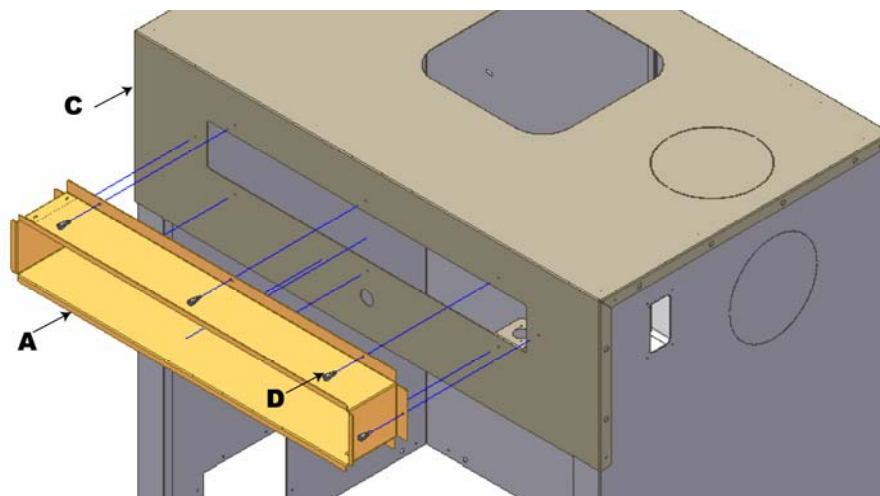
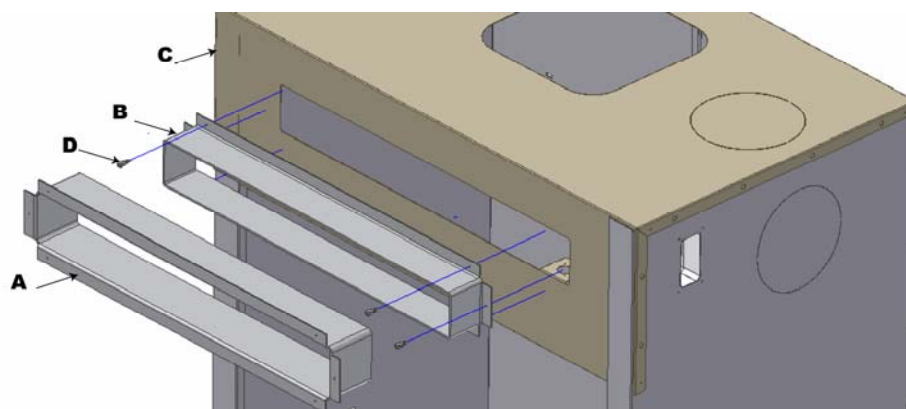
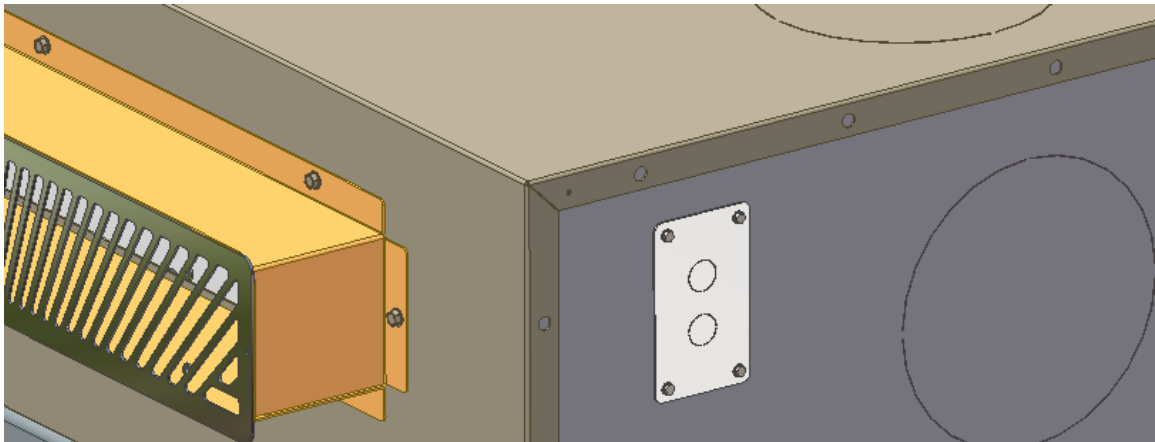
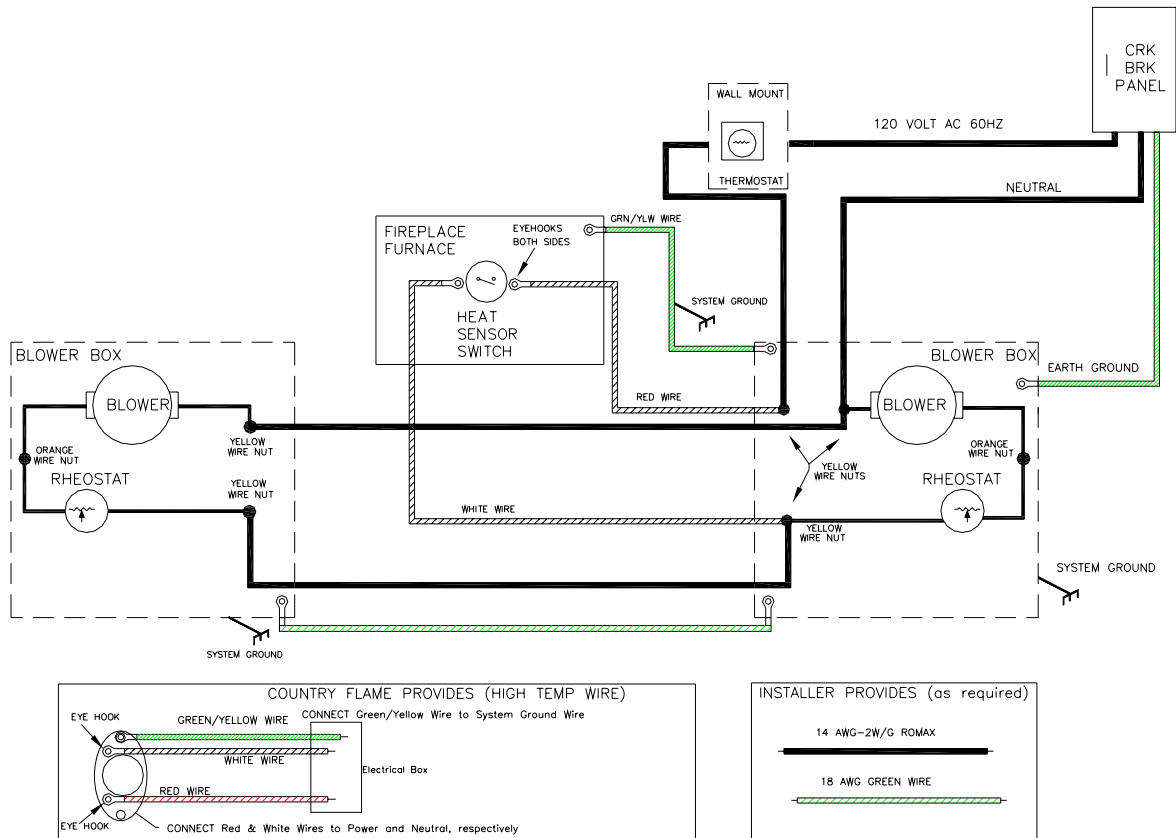

FIGURE 9A: HEAT DISCHARGE BOOT
FIGURE 9B: ADJUSTABLE HEAT DISCHARGE BOOT (OPTIONAL)
FIGURE 13: ELECTRICAL JUNCTION BOX
FIGURE 14: ELECTRICAL SYSTEM
4. FIGURE 9A demonstrates the installation of the top front warm air discharge boot to the front of the Smart Fireplace. FIGURE 9B demonstrates the procedure for installation of the adjustable warm air discharge boot (optional.) This optional item allows the mason to adjust for any variation in non-standard brick or stone that is being used on to face the fireplace.
5. The temperature snap disc was mounted and pre-wired at the factory. Refer to FIGURE 14 and ensure a qualified electrician properly wires and grounds the Smart Fireplace to the electrical box, shown in FIGURE 13. **NOTE:** It is important to remember that no access to wiring and grounding of the fireplace is possible once the brick mason has completed all brick work. Ensure that wiring is proper and functioning before allowing brick work to be completed.
FIGURE 9A shows the proper assembly of the standard heat discharge boot. FIGURE 9B shows the optional adjustable heat discharge boot that is required in the event anything but 4" wide brick is used to complete the masonry work. The optional slide in FIGURE 9, Item B, allows for a lintel adjustment from 4 inches to 7 inches. By ordering the adjustable heat discharge boot the brick mason can adjust for variations in custom masonry finishes that might be used on a particular fireplace. Refer to **STEP 7 - COMPLETION OF MASONRY FRONT** for step-by-step procedures for installing the parts shown in FIGURE 9.
- (A) Outer Frame, Heat Discharge Boot (FIGURE 9A standard, FIGURE 9B optional)
- (B) Inner Frame, Adjustable Heat Discharge Boot (FIGURE 9B optional)
- (C) Fireplace Furnace
- (D) Four tek screws
6. The fireplace heat grille and heat discharge boot come preinstalled from the factory and can be used with any masonry brick up to 4” in thickness. If thicker masonry material is used, refer to FIGURE 9B for a pictorial view of the assembly process of the optional adjustable heat discharge boot. These optional parts are listed in the back of this manual. Order them from your dealer.
- A. Mount “inner unit” (Part B, optional) to front of fireplace Part C using four (4) screws, Part D.
- D. The air discharge snap disc comes pre-installed and wired from the factory. Ensure that it is wired to the home circuit by a certified electrician **AND** properly tested before final face masonry is completed. A complete electrical circuit diagram is shown in FIGURE 14.
FIGURE 13 shows the location of the electrical junction box cover. A certified electrician should remove the cover of this junction box to connect the Smart Fireplace Furnace's blower system to the household electrical grid and the supplied thermostat with proper temperature rated romex wire. **WARNING:** Failure to properly wire in the blower system can lead to shock hazard, a malfunctioning blower system, or could create a fire hazard. Contact a certified electrician to ensure proper installation of the Smart Fireplace Furnace blower system. **NOTE:** All wiring should be completed before masonry work is complete.
FIGURE 14 shows the proper components and wiring procedure for connecting the blower system. Follow all local electrical and safety codes as well as the National Electrical Code when installing electrical wiring.
clear of sharp objects. Further, ensure that the power cables or motor leads are not kinked. Never allow the power cables or motor leads to come in contact with oil, grease, hot surfaces, or chemicals. Utilize the two high temperature wires (red and white) provided by Country Flame to connect the air discharge snap disc to the electrical system as shown in FIGURE 14. Use the high temperature wire (green/yellow) to ground the fireplace to the right blower box. The green/yellow wire installed by Country Flame at the factory should be connected to one of the screws used to hold the air discharge snap disc to the fireplace. Connect the other end of the green/yellow wire to the right blower box or another earth ground coming from the circuit breaker box. The installing electrician should ensure proper grounding is accomplished for both blower boxes and the fireplace unit as per FIGURE 14. Screws and wire nuts are provided by Country Flame to ensure all parts are available during installation.